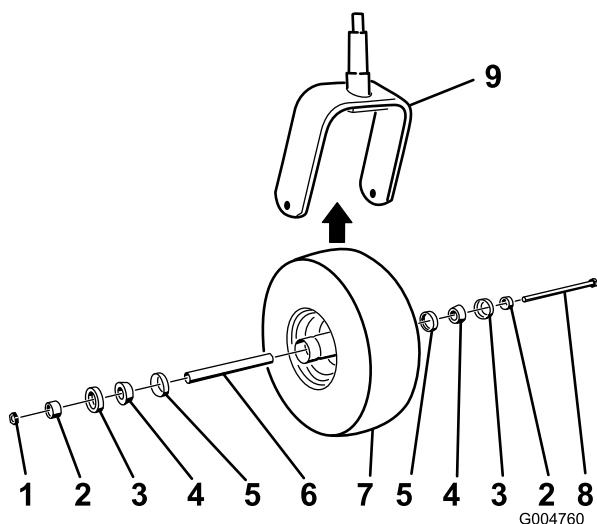

Figure 52
2. Remove the locknut from the bolt holding the castor wheel assembly between the castor fork (Figure 52).
5. Assemble the castor wheel by pushing the cone bearings and seals, packed with grease, into the wheel hub, positioned as shown in Figure 52.